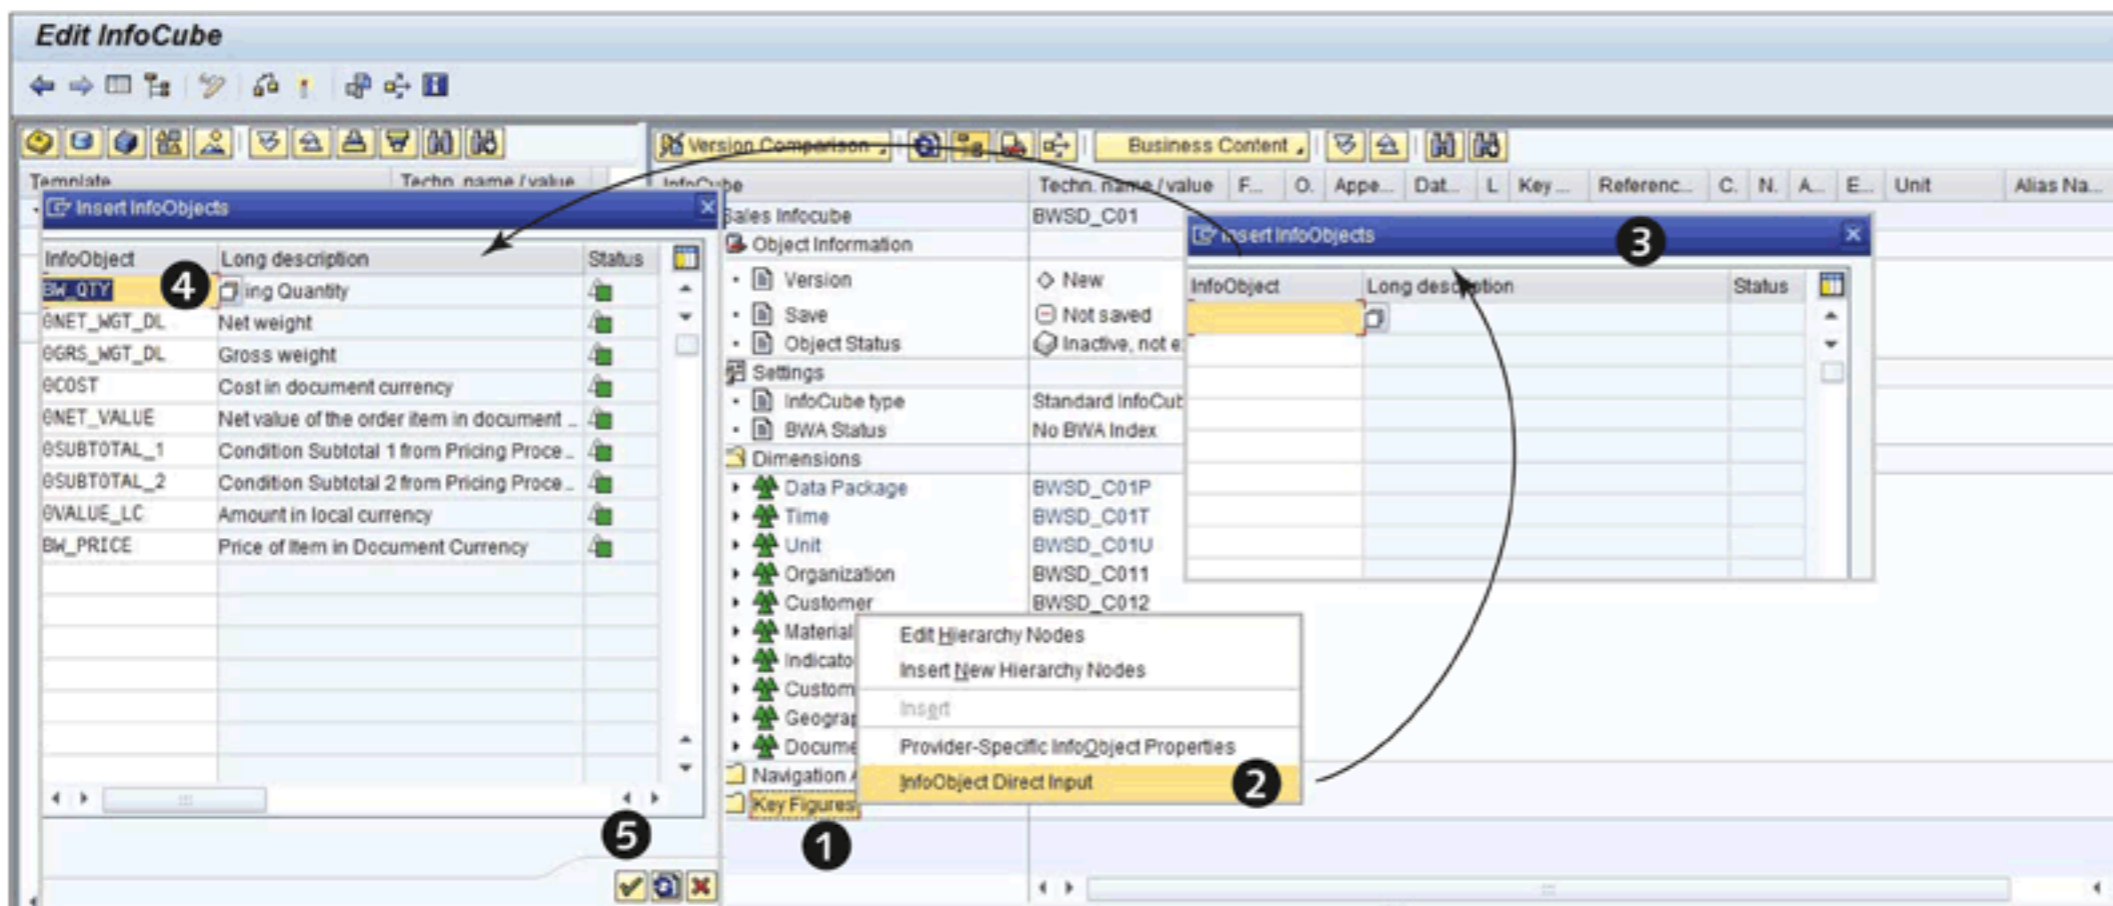

Figure 5.19 Adding Key Figures to an InfoCube
Now we must add key figures to the InfoCube. Here again we have two options to perform this task: the template method or the direct input method. Select the KEY FIGURES context menu shown in ❶ of Figure 5.19, and then select INFOOBJECT DIRECT INPUT (❷).